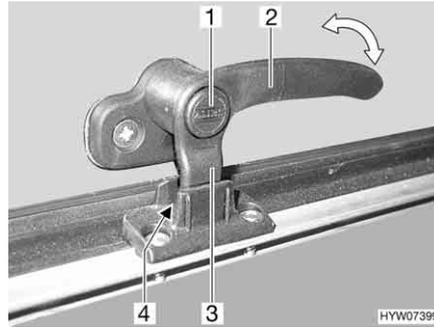
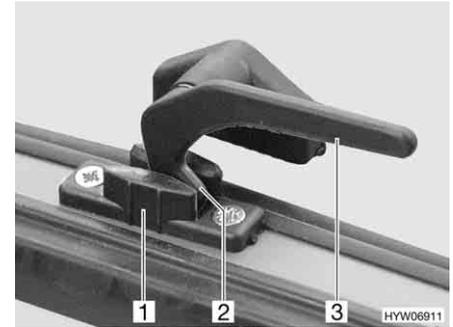

Fig. 91 Catch lever with safety knob in "continuous ventilation" position
Fig. 92 Catch lever in the "continuous ventilation" position
- "Continuous ventilation" (Fig. 91 and Fig. 92)
- Press and hold the security button (Fig. 91,1), if present.
- Turn the catch lever (Fig. 91,2 or Fig. 92,3) a quarter turn towards the centre of the window.
- Return the catch lever to its initial position. Move the locking catch (Fig. 91,3 or Fig. 92,2) on the catch lever into the recess of the window catch (Fig. 91,4 or Fig. 92,1).